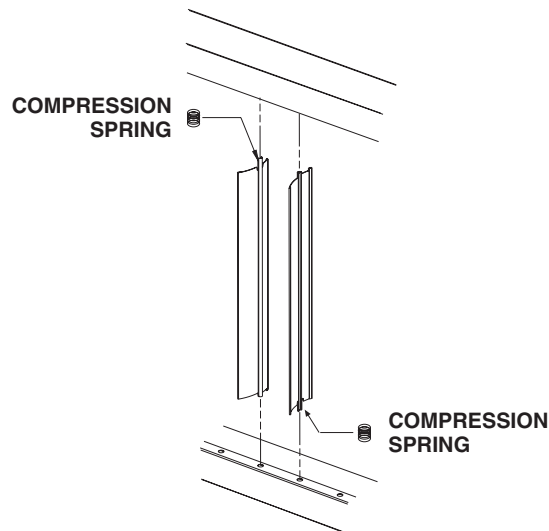

Figure 3. Vertical Louver Installation
- (2) With wider louver blade facing in toward heat exchanger, push tab with louver spring into hole in top or bottom louver frame (see Figure 3)—spring compresses. Insert tab on other end of louver into opposite louver frame. For left airflow, compress spring into top louver frame. For right airflow, compress spring into bottom louver frame.